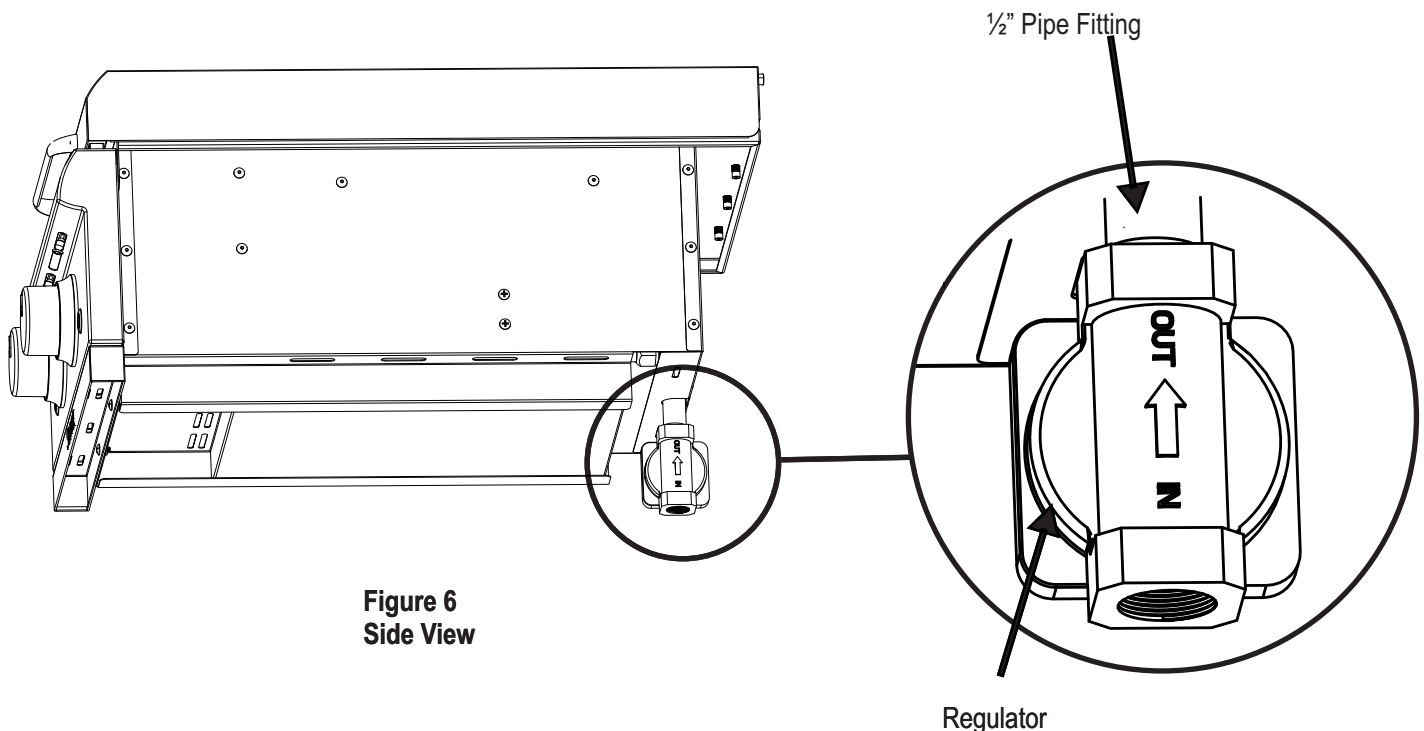

Figure 6
4. Connect the natural gas appliance regulator (provided) to the $\frac{1}{2}$ " pipe fitting connection taking care to connect the outlet side of the regulator to the pipe fitting connection (see Figure 6). The inlet and outlet sides of the regulator are noted by markings on the rear of the regulator body.
6. Re-assemble in reverse order making sure burners are properly engaged to orifice holders (Figure 6).